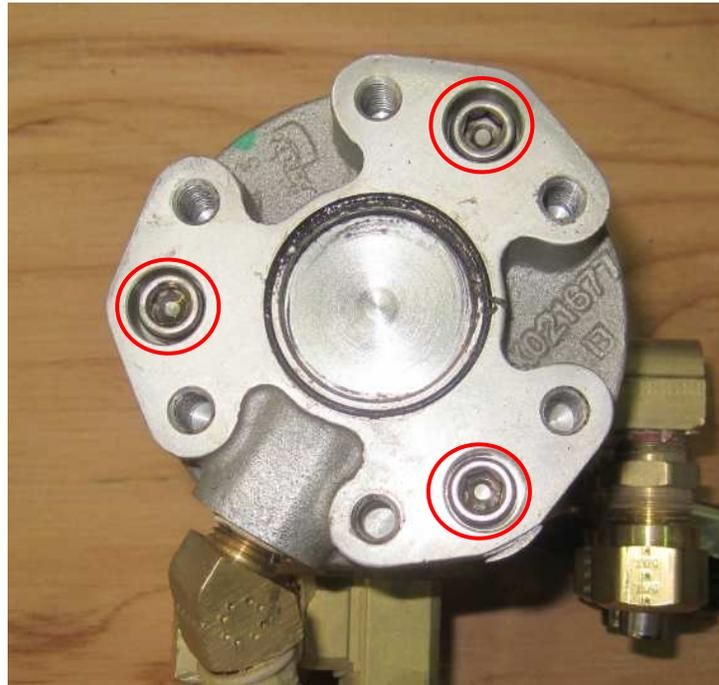
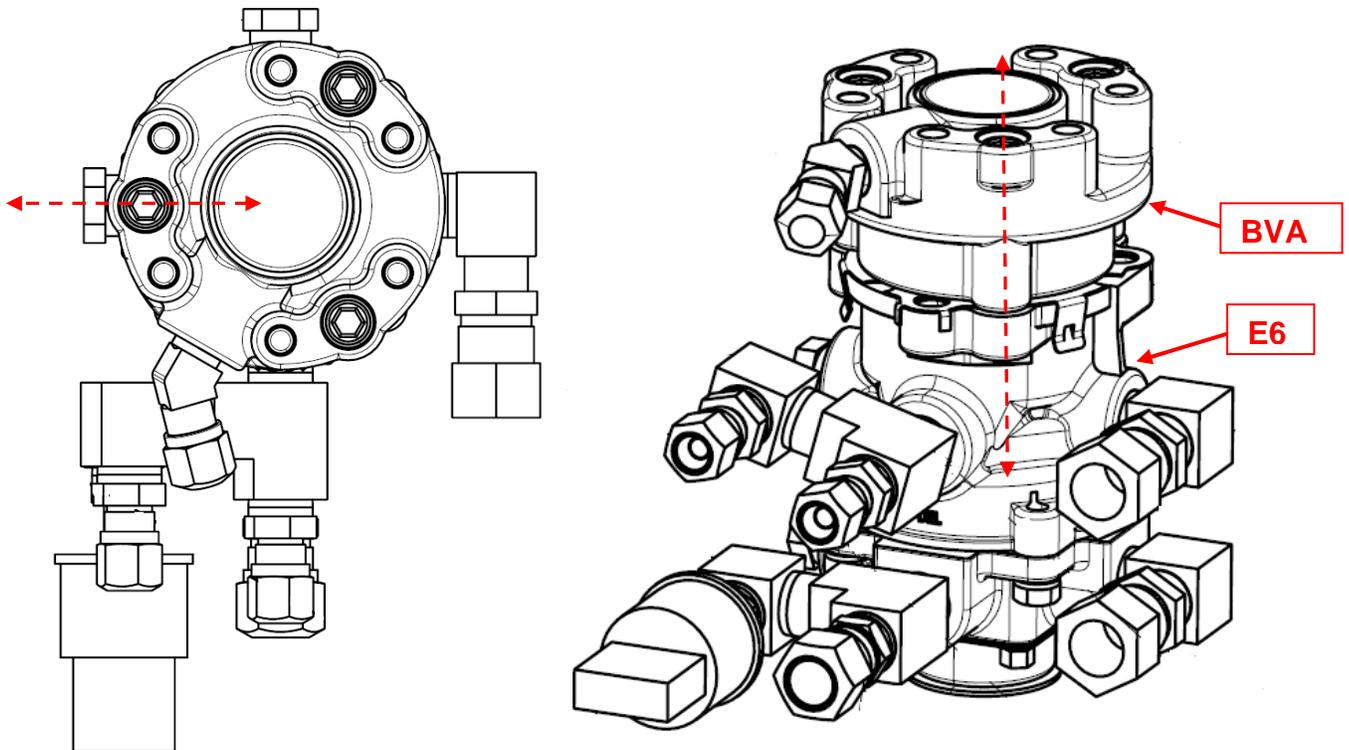

Figure 7: Remove BVA Valve
Figure 8: Remove BVA Valve
18. Remove three allen bolts attaching the BVA valve to the E6 treadle valve, see Figure 7. Retain the allen bolts for reuse.
21. Align a new BVA valve (PN: 477422) with the E6 valve as shown in Figure 8. Attach the BVA valve using the 3 allen bolts removed in Step 18, see Figure 7.